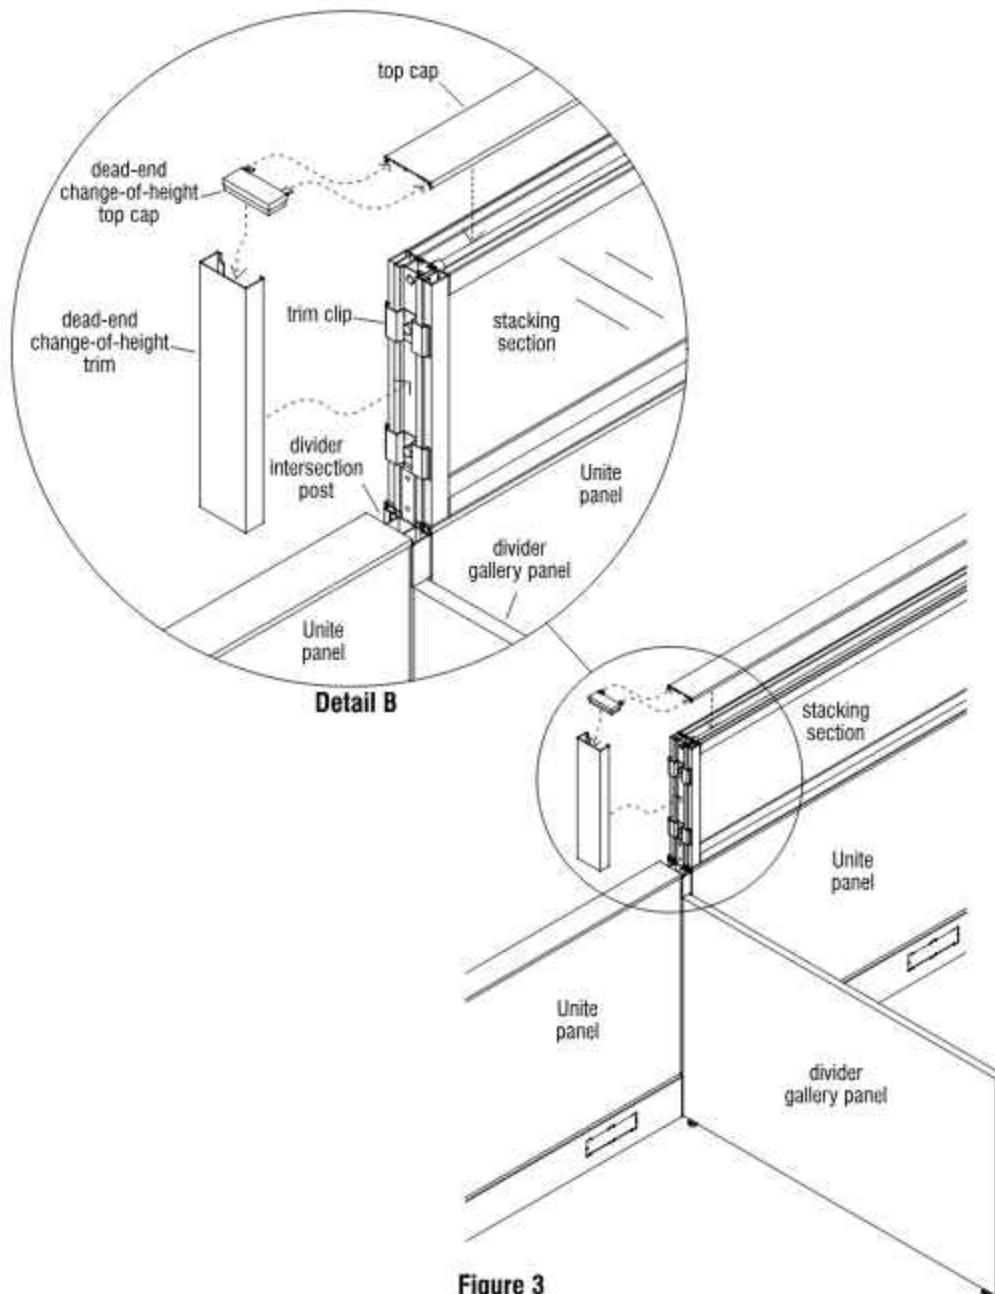

Figure 3
2. Position the dead-end change-of-height trim on the trim clips by hooking the trim on one side of the clips and then snap to other side of the clips (Figure 3 & Detail B).
3. Next, install dead-end change-of-height top cap horizontal tabs into Unite panel top cap. Seat the top cap assembly into the top of dead-end trim and onto the top of the Unite panel at the same time (Figure 3 & Detail B).